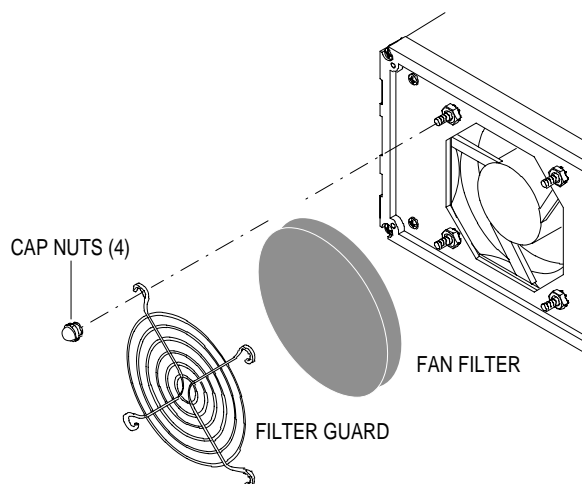

Figure 1-2. Fan Filter Removal/Replacement
Step 1 Remove the four capnuts holding the filter in place (Figure 1-2).